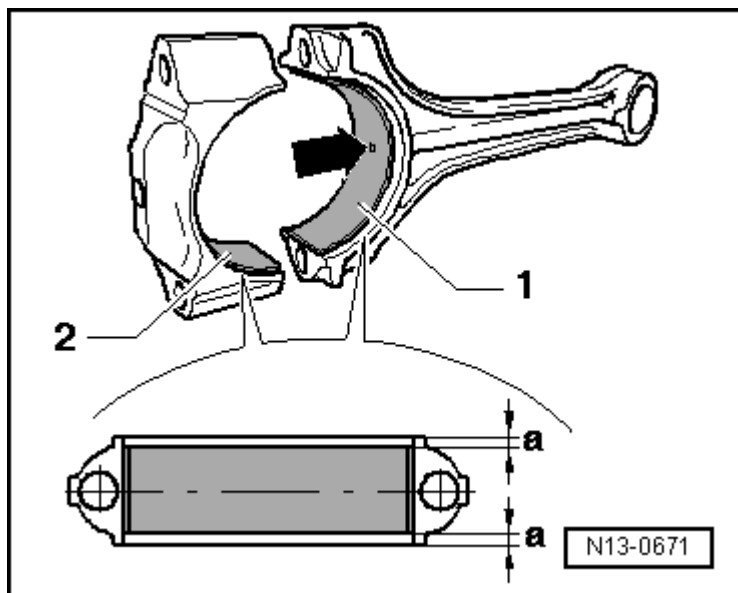

Fig. 20: Bearing Shells - Installed Positions
- Note the installed position, refer to **Fig. 20**.